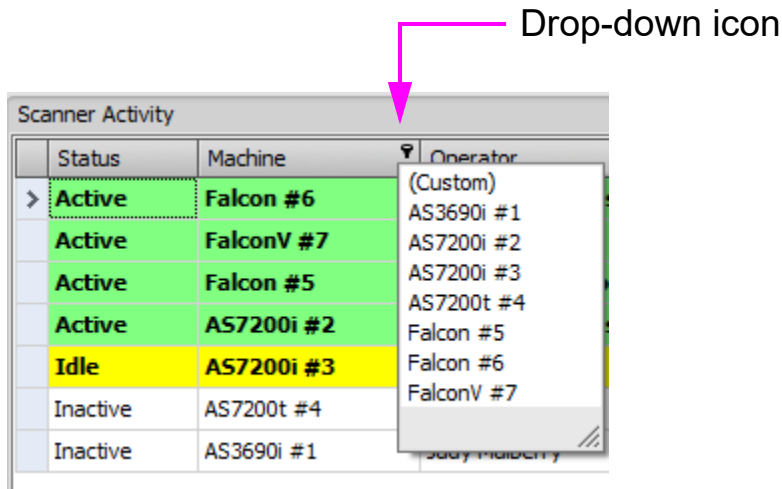

Figure 3-3: Drop-down list of items
- If you hold the mouse over a tab, a drop-down icon will appear. Clicking on the icon displays a drop-down list where you can select a specific item in that category (Figure 3-3). If you select **(Custom)**, another window will